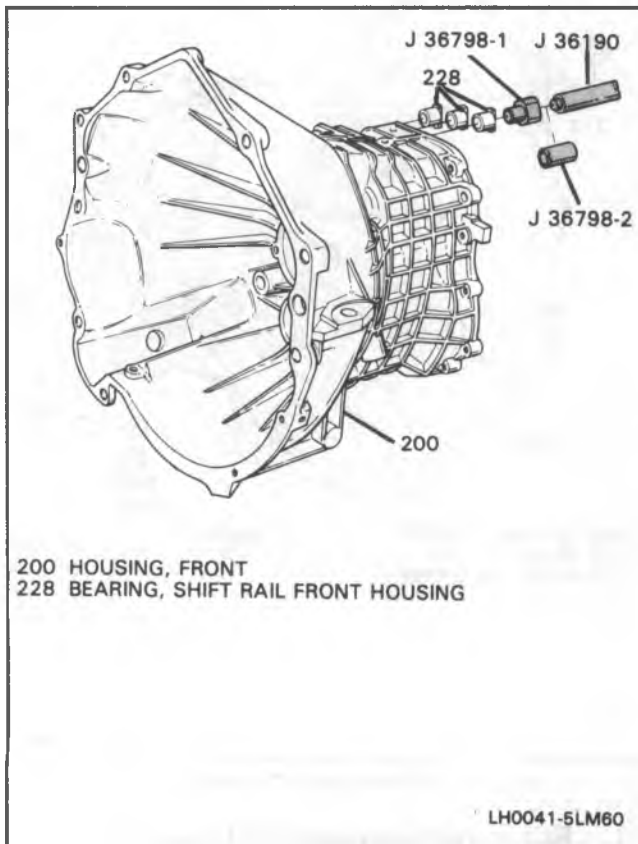

Figure 40 Shift Rail Bearings Install
1. Ball bearing outer race (216), using brass drift.
2. Three shift rail front housing bearings (228), using J 36798-1 and J 36190 (Figure 40).